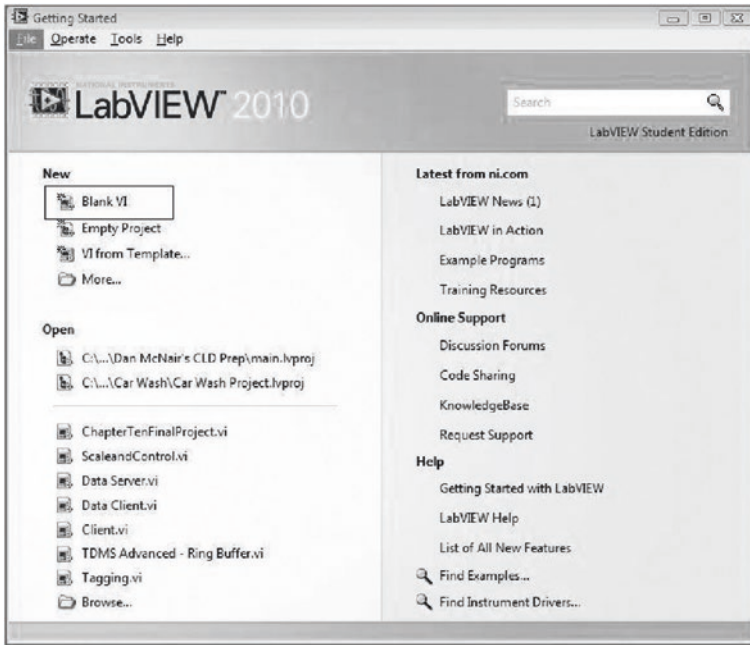

Figure 10-19. The start screen for LabVIEW (double-click “Blank VI”)
2. After LabVIEW starts, click the “Blank VI” option. Figure 10-19 shows this process.